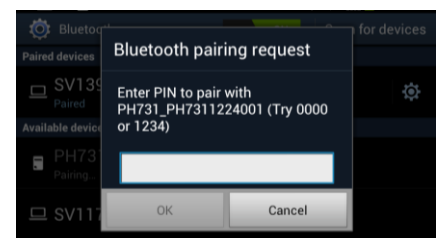

Figure 3. Bluetooth Pairing Request
2. Enter PH731 Pin Code for Bluetooth Pairing Request (Figure 3).
4. The device will then ask for “Bluetooth pairing request.” See Figure 3.